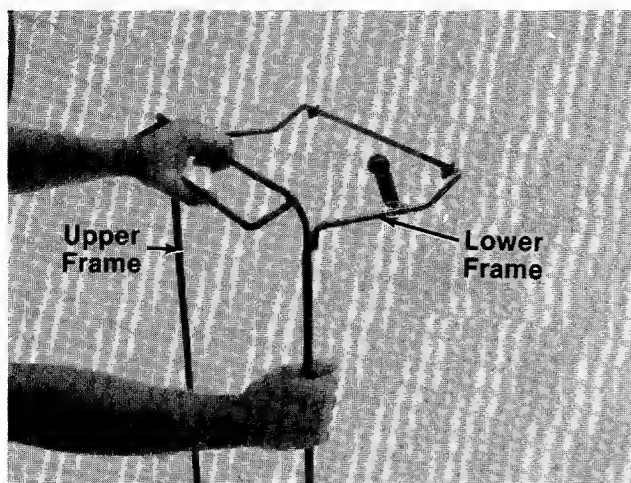

FIGURE 7.
- ← 1. Join the upper frame and lower frame assembly as shown in figure 7.